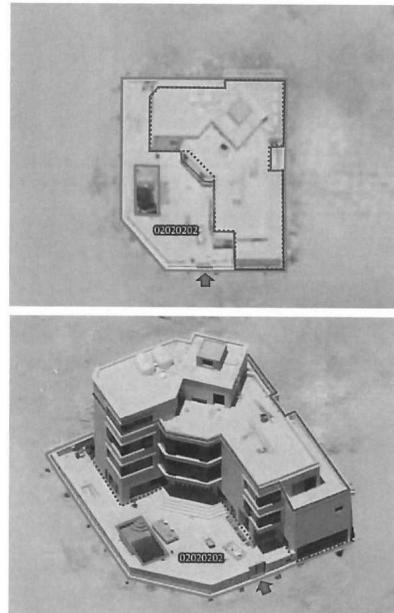

Figure 1: Example of "Outer Boundary Maps"
- Provide the "Outer building line" showing the maximum horizontal coverage of the building at **any floor level**, representing the full horizontal extent. (as shown in Fig. 1 – Red Line).
- Provide the "Building Footprint" showing the maximum horizontal coverage of the building at **Ground level** within the cadastral plot boundary (as shown in Fig. 1 – Red dashed Line).
- Provide the "Property Entrance", clearly Showing its location at **ground level** within the cadastral plot boundary (as shown in Fig. 1 – Orange Line).
- Provide all "Boundary Walls" showing the external limits of the property at **ground level** within the cadastral plot boundary. (as shown in Fig. 1 – Yellow Line).
- Provide the official "Cadastral Plot Boundary" as received from the government system. (as shown in Fig. 1 – Green Line).
- Provide all "Swimming Pool" showing the maximum horizontal coverage of the swimming pool at **any floor level** within the cadastral plot boundary (as shown in Fig. 1 – Blue Line).
- Provide "Parcel Number" as a text within the cadastral plot boundary, matching the **official number** issued by Survey and Land Registration Bureau (SLRB) (as shown in Fig. 1 – White Text).